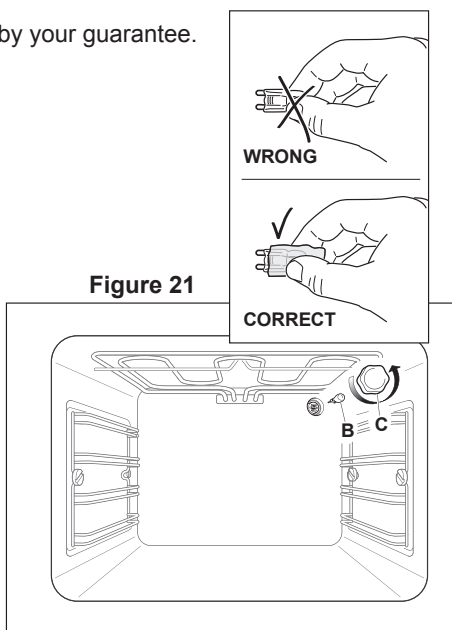

Figure 21
- Remove the protective cover "C" (fig. 21).